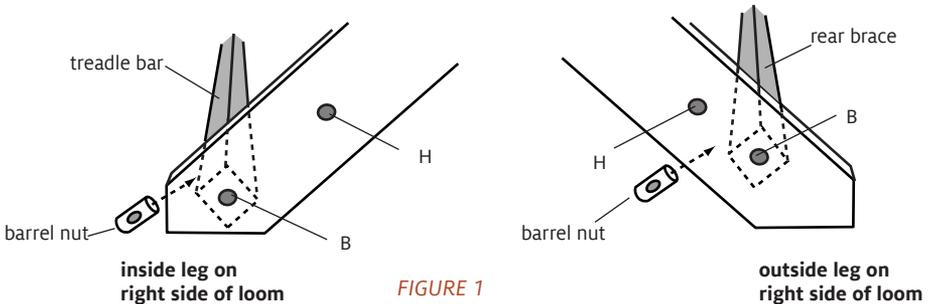

FIGURE 1
2. Install the stroller caster blocks to the inside legs and the treadle bar. Locate the trusshead bolt (B) that attaches the inside leg to the treadle bar on the outside of the leg 1" from the bottom (figure 1). Remove the bolt from the leg. The barrel nut that held the bolt slips out of the underside of the treadle bar. Discard the bolt and keep the barrel nut. Set a caster block on the
outside of the leg, with the caster wheel toward the front and the floor. Line up the hole (C) at the bottom of the block to the hole (B) in the leg and insert a new 3" machine screw through the caster block and the leg into the treadle bar (figures 1 and 2). Using a flat screwdriver to hold the barrel nut in place, tighten the bolt into the barrel nut. Repeat for the other front caster block.